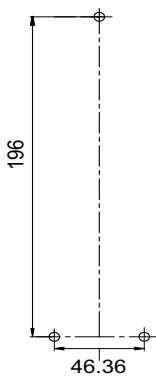

Fig 1
1. Fasten AXIS T8123-E/T8124-E with three screws. See Fig 1 (screw holes are marked 1, 2 and 3).